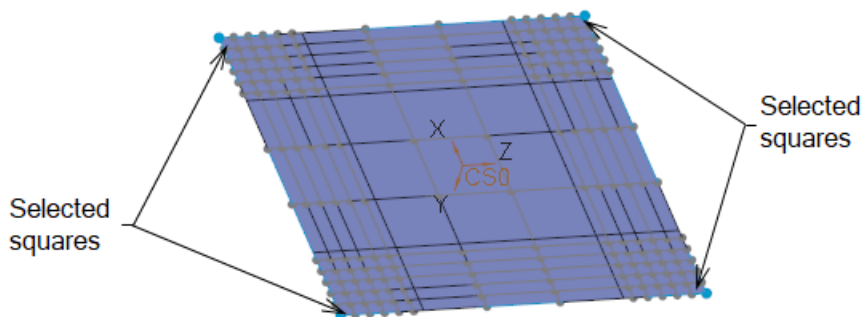
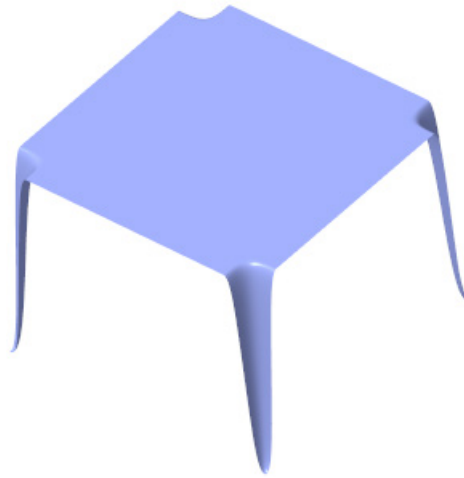

Figure 15-140 Surface with the squares to be transformed
Figure 15-141 Completed surface model
1. Select the four small squares, as shown in Figure 15-140, and then drag the orange handle in z-direction such that the surface model looks like the one shown in Figure 15-141.